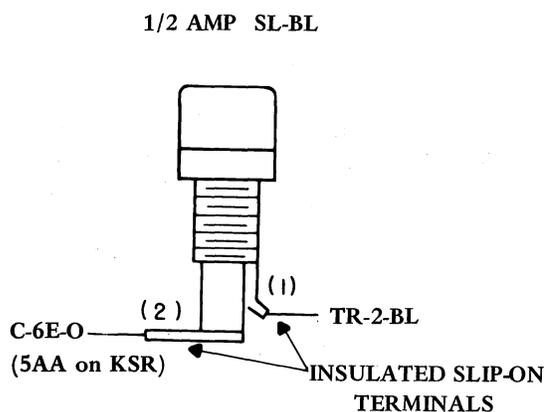

Figure 8 - Fuse Holder (AG)
- (d) Connect fuse (Figure 8). Use two insulated slip on terminals on transformer cable assembly TP336498 for the fuse.